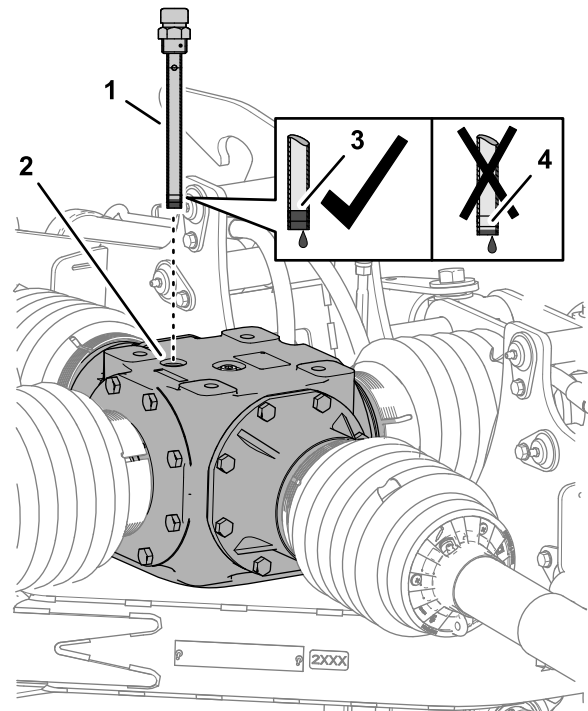
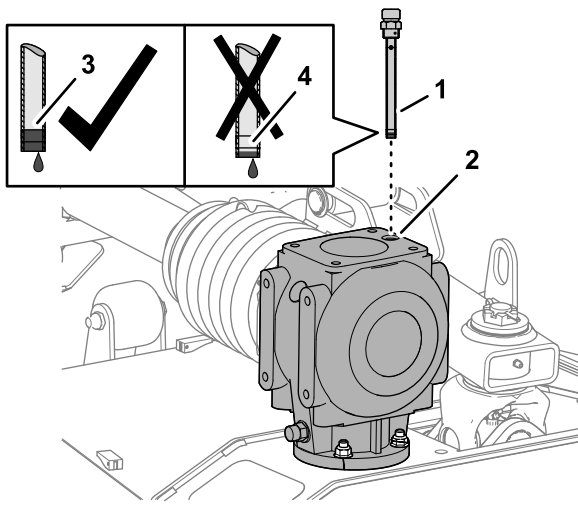

Figure 51
Figure 52
1. Remove the dipstick from the dipstick port at the top of the center gearbox (Figure 51 or Figure 52).
2. Check the fluid level indicated on the dipstick (Figure 51 or Figure 52).
4. Thread the dipstick into the fill port and tighten the dipstick (Figure 51 or Figure 52).